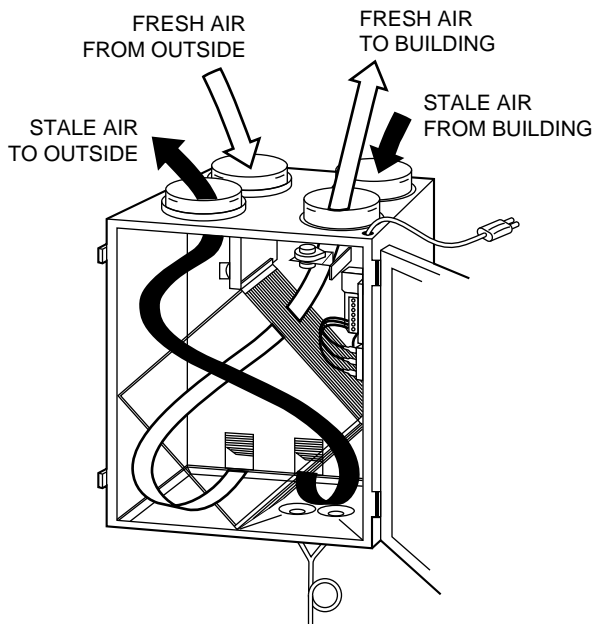

Fig. 2 — Vertical Application
5. Examine the condensate drain pan to ensure drains are functioning properly. Gently clean tray with mild soapy water. (See Fig. 2 and 3.)